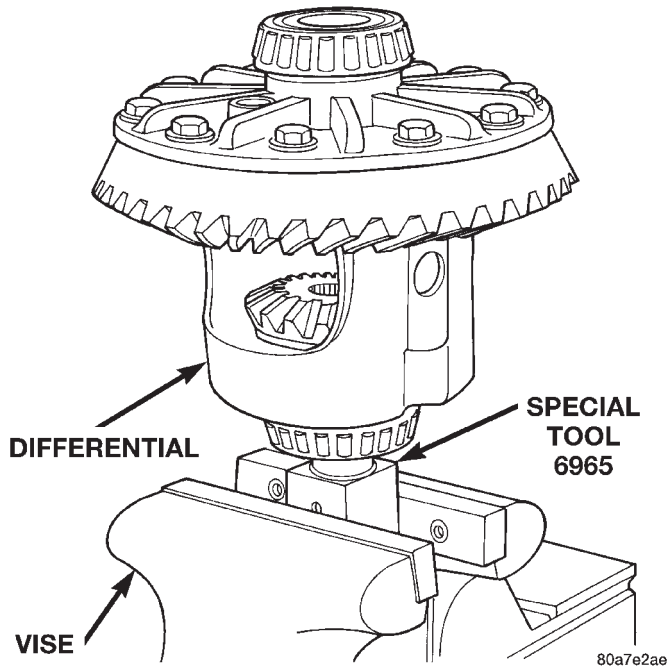
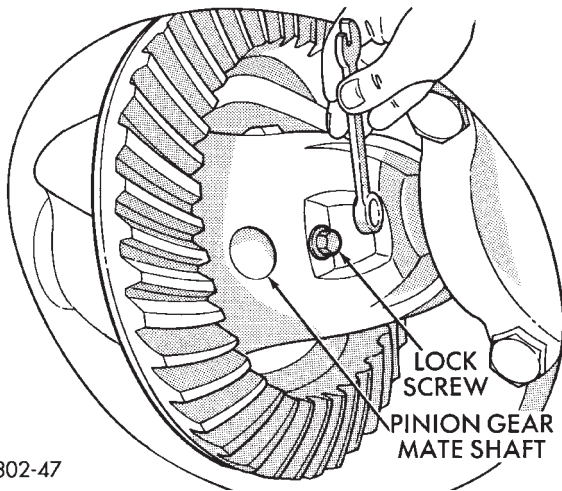

Fig. 52 Differential Case Holding Tool
Fig. 53 Mate Shaft Lock Screw
- (1) Clamp Side Gear Holding Tool 6965 in a vise.
- (2) Position the differential case on Side Gear Holding Tool 6965 (Fig. 52).
- (3) Remove ring gear, if necessary. Ring gear removal is necessary only if the ring gear is to be replaced. The Trac-lok differential can be serviced with the ring gear installed.
- (4) Remove the pinion gear mate shaft lock screw (Fig. 53).